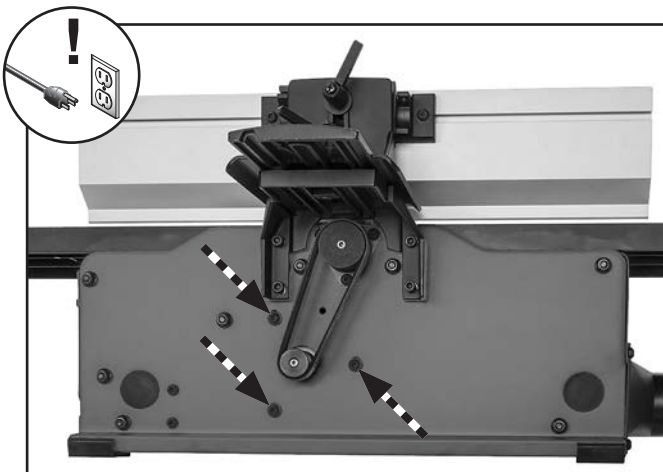

Figure 58. Location of screws around motor pulley.
2. Loosen (1) button head cap screw securing belt cover, then remove cover.
3. Loosen (3) button head cap screws around motor pulley (see **Figure 58**). DO NOT remove screws!